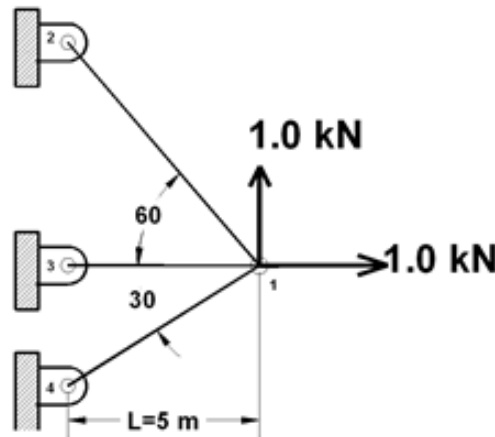

Fig.1
- 1A. Compute the values of the nodal displacements and nodal reaction forces of the 2-D truss system shown in Fig.1 applying the Direct Stiffness Method. Assume $A=1.5 \times 10^{-4} \text{ m}^2$ and $E = 210 \text{ GPa}$ for all members.